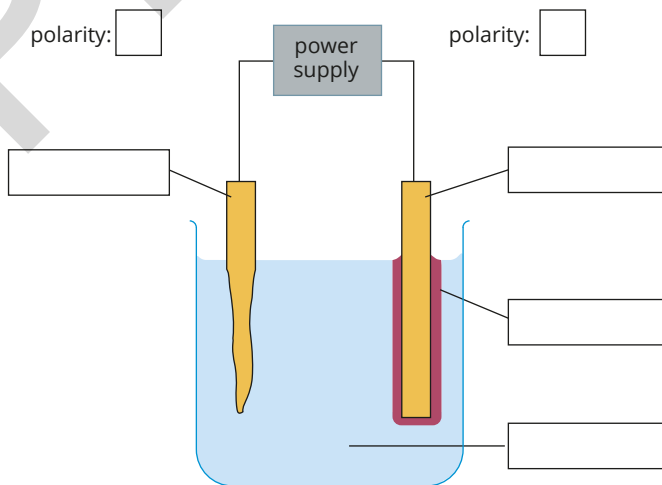

FIGURE 10.2.13 An electrorefining cell for blister copper.
- Impure copper, called 'blister copper', is produced by the reduction of copper ore in a blast furnace. Blister copper can be purified by electrorefining. Label the parts of the electrorefining cell shown in Figure 10.2.13 for blister copper.